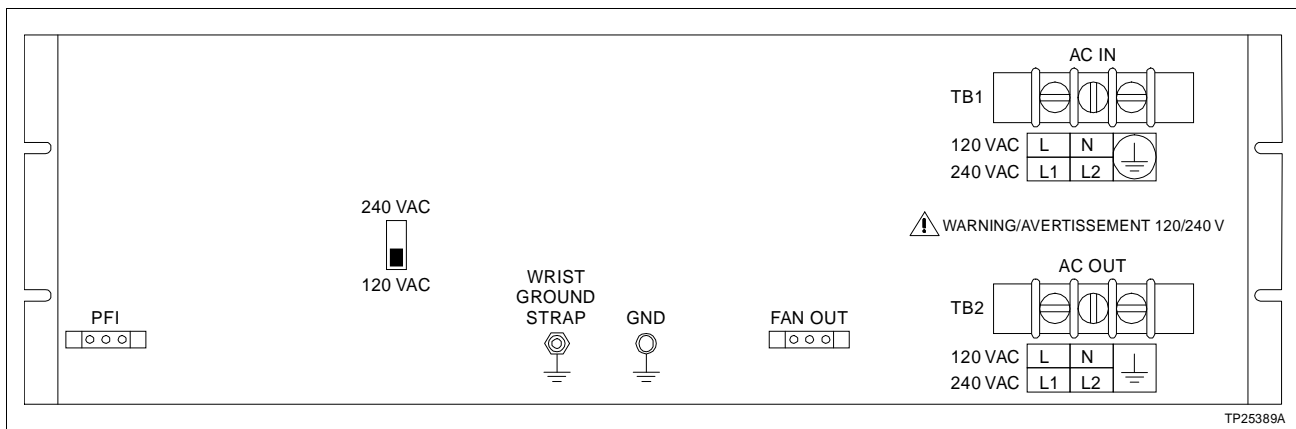

Figure 3-7. Rear of IEPEP01 and IEPEP02 Power Entry Panels
1. Set the slide switch on the rear of the power entry panel to either 120 V or 240 V to match the line voltage. This switch sets the power fail interrupt (PFI) detection circuit to determine low level or loss of input. Figure 3-7 shows this switch on the rear of the IEPEP01 and IEPEP02 power entry panels.